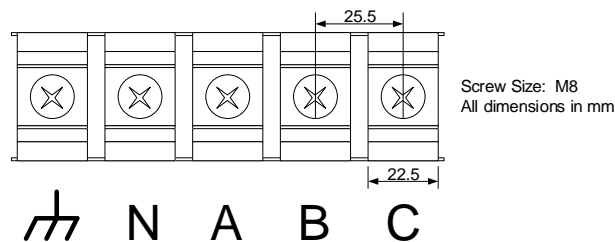

Figure 12 - AC Terminal Block Connections
- Remove the plastic cover of AC terminal block which is supplied with the product. Connect the ground cable as well as the three utility phase cables to the AC terminal block as shown in Figure 12.
- The neutral connection (N) should be connected or left open based on the AC connection type – see the next section for details.